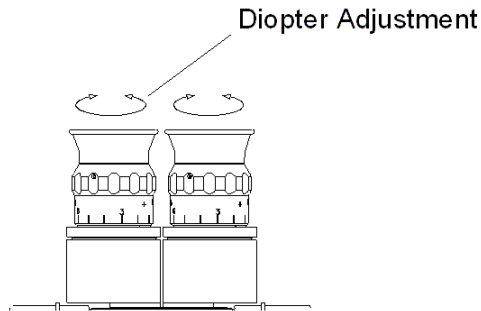

Figure 13: Diopter adjustment
The diopter adjustment can be performed by rotating a ring located below the eyepiece. There is a visible trace to be used as reference mark during this adjustment. Before carry out any adjustment, verify that zero (0) mark on the ring coincides with the fixed reference trace. It is possible to adjust between  $-6$  and  $+6$  diopters (Figure 13).